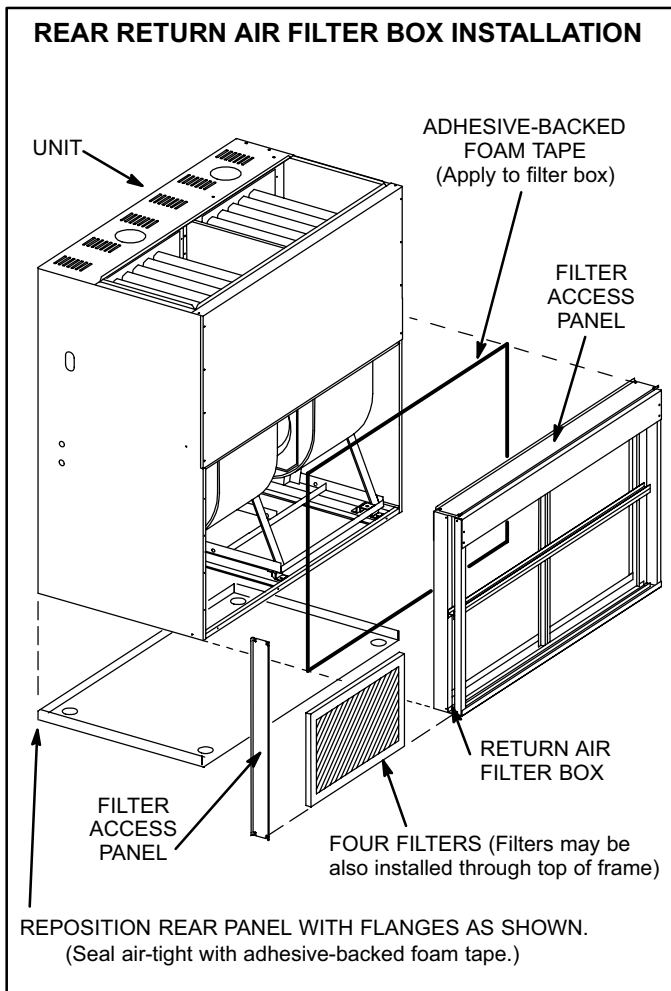

FIGURE 6
B - Rear Return Air (Refer to figure 6)
- 3 - Apply adhesive-backed foam tape to the filter box (side facing furnace) all around the opening. Refer to figure 6.